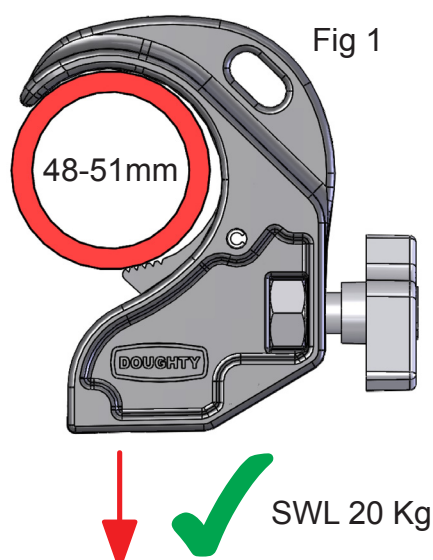
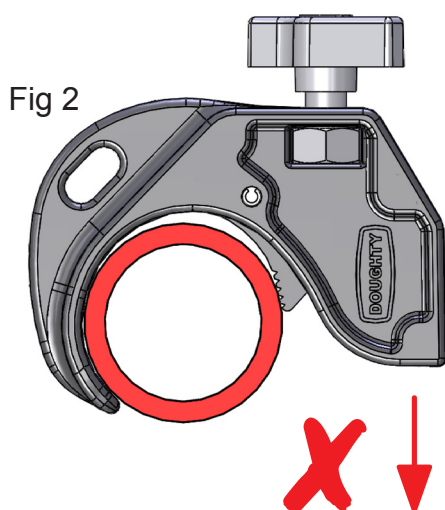

Fig 1
Fig 2
3. The SWL is only applicable when the clamp is used in a vertical orientation. (fig 1)
6. Doughty Engineering Ltd does not recommend using any clamps which do not fully encompass the tube for overhanging (fig 2). All open clamps including hookclamps should be used in a vertical orientation only (fig 1).